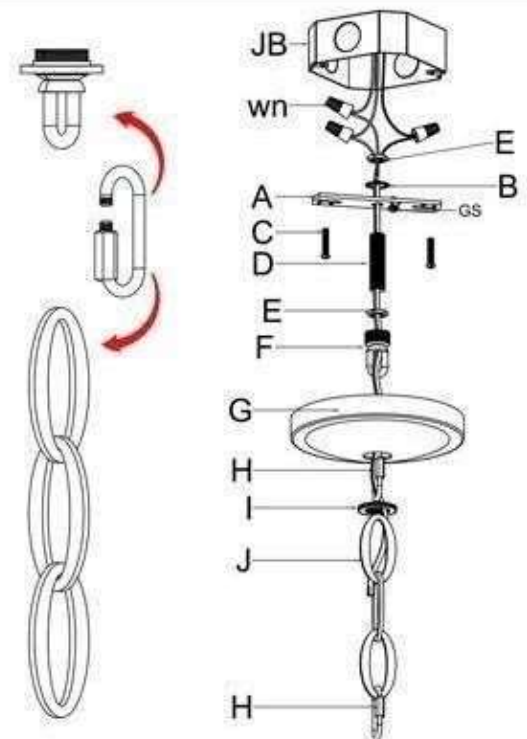

Fig. 3
CONNECTING THE WIRE (Fig. 3)
12. Connect the electrical wire as shown in Fig. 3, making sure that all the wire connectors are secured. If your junction box has a ground wire (green, or bare copper), connect fixture's ground wire to it. Otherwise connect fixture's ground wire directly to crossbar (A) using green screw provided.
13. Tuck wire connections neatly into junction box (JB).
14. Raise canopy (G) over ceiling loop (F) and secure with collar ring (I).